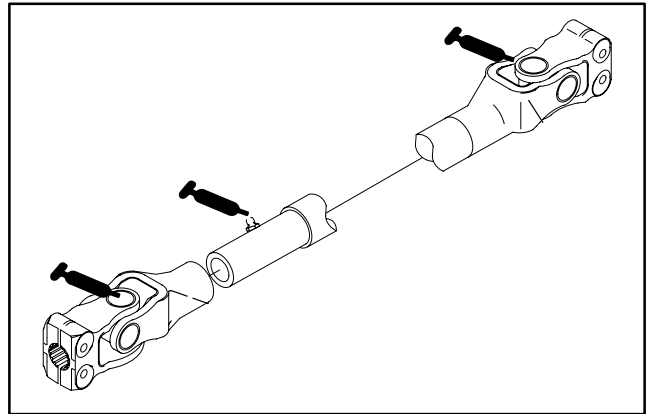

Figure 3
4 Wheel Drive Models only—Steering cylinder ball joints, Rear axle tie rod (2), Rear axle pivot (1), Double Cardan joints (2 ea. side) (Fig. 2) and Rear Drive Shaft (3) (Fig.3)